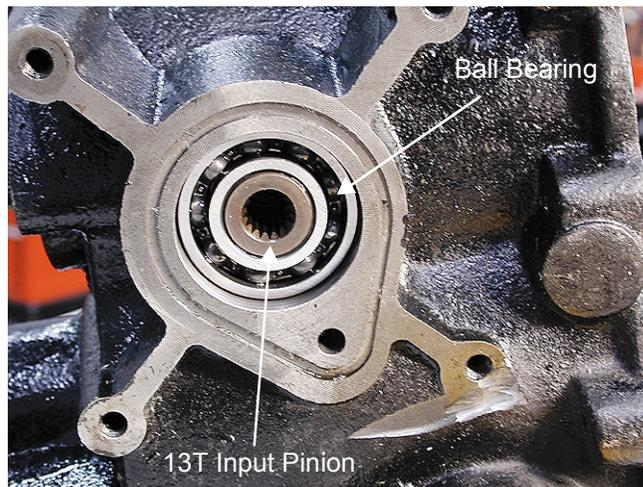

Figure 16
18. Remove the 13T input pinion and ball bearing from the right transmission housing using a wooden dowel. See Figure 16.